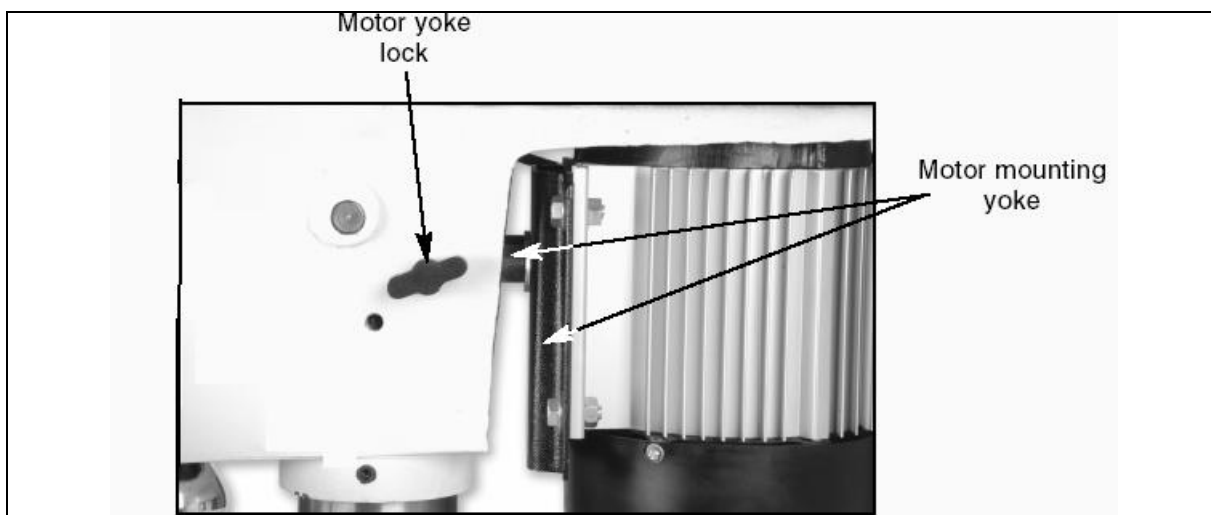

Figure 17
1. Loosen the belt tension lock knobs on both sides of the headstock by turning counterclockwise as shown in **Figure 17**.